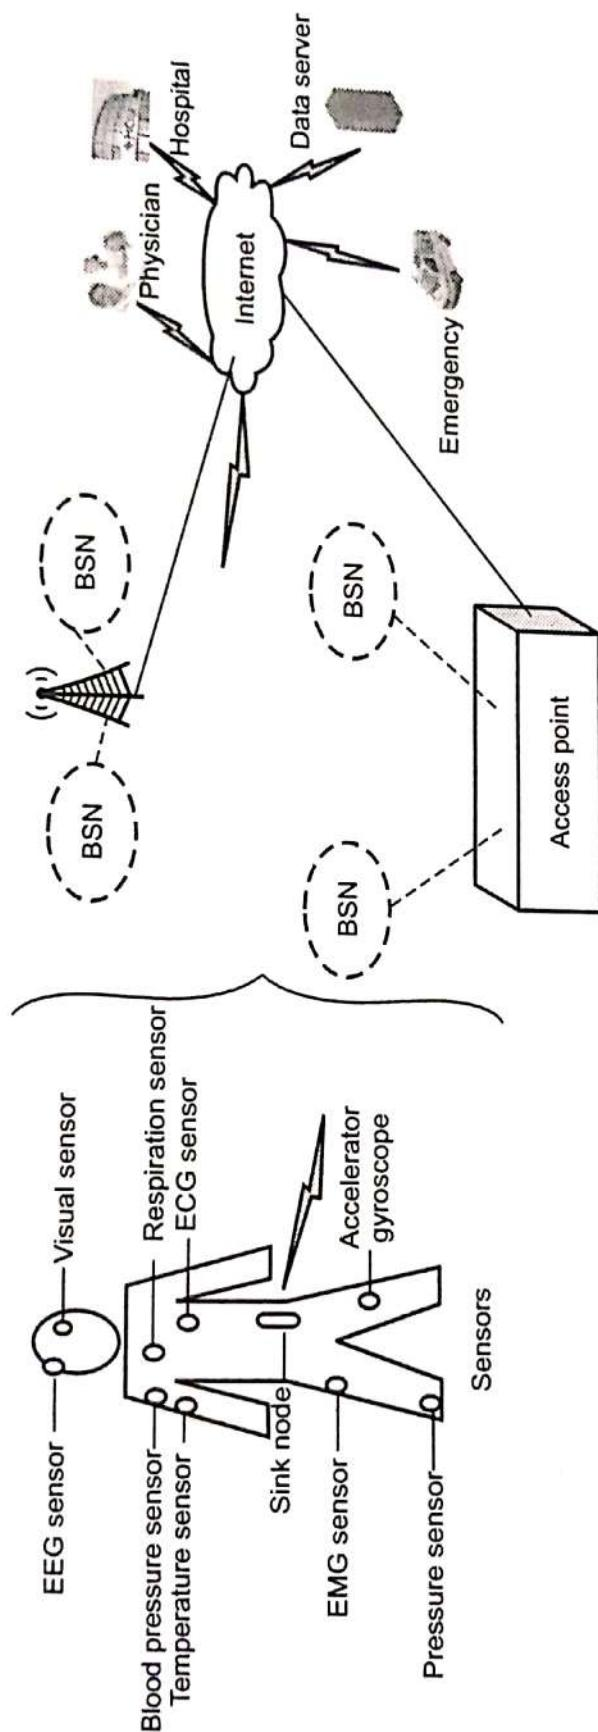

Fig. 1.8.2 : Source of body sensor network
- Fig. 1.8.2 shows sources of body sensor network.